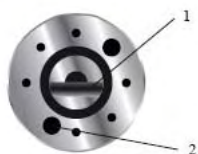

Figure 7.1 Valve plate driving section.
- 8) Gently rotate the valve. The two adjustment pins will slide into their corresponding holes in the valve plate (see Figure 7.1)